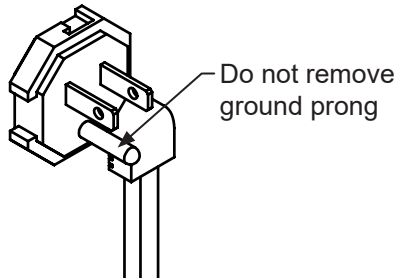

Figure 5
- Do not remove the grounding prong from the power cord. (See Figure 5).